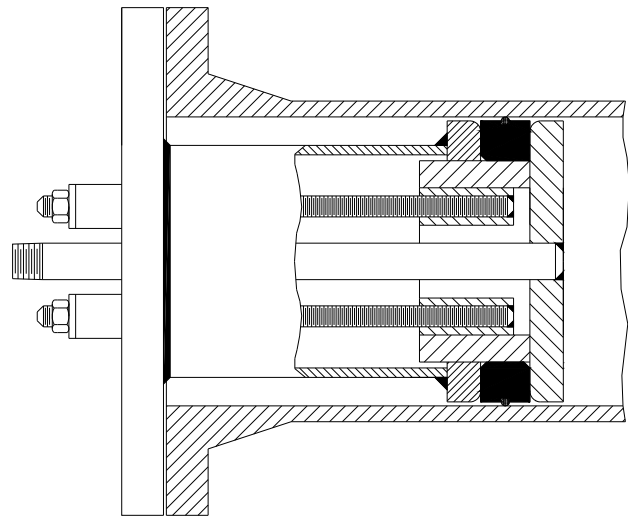

Figure 4. Flange Test Plugs Installed as Isolation Plug.
7. Locate the flange on the pipe using an alignment tool (*The Flange Test & Welding Plug is not designed to support or position flange to be welded*). Apply gasket to mating flange face and insert the Flange plug into the flange and pipe with the inert gas purge ports oriented at the top and bottom of the flange. Tighten bolts in a cross-like pattern to properly seal the flange gasket. See figure 4. Proceed with either step 8, 9 or 10 below depending on plug size.